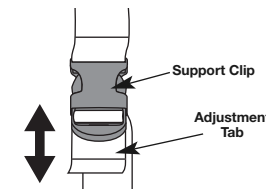

Fig. 3
2. Adjust by lifting slightly on the rear of the lower clip, push or pull the loose end of the strap length to fit the operator's size and comfort. (Fig. 3).